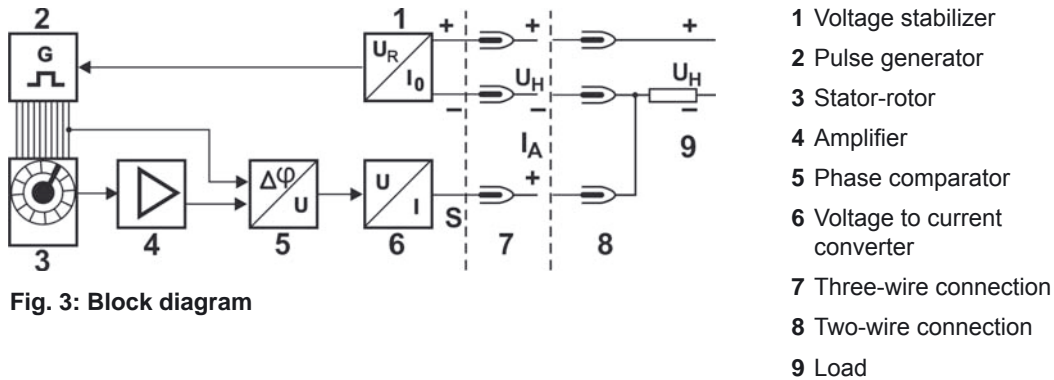

Fig. 3: Block diagram
Ten stator segments (fig. 3, item 3) are incited using chronological pulses (2). The phase relationship of the signal – capacitively decoupled from the rotor – depends on the rotation angle. The signal is amplified (item 4) and is converted via the phase comparator (5) to the voltage converter (6) into an output current proportional to the rotation angle.